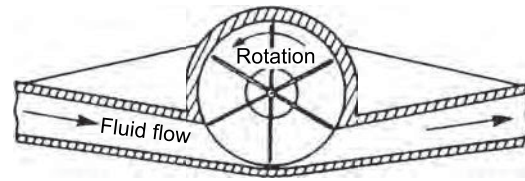

Figure 24.8
- (b) **Rotary vane positive displacement meters** measure the flow rate by indicating the quantity of liquid flowing through the meter in a given time. A typical such device is shown in section in Figure 24.8 and consists of a cylindrical chamber into which is placed a rotor containing a number of vanes (six in this case). Liquid entering the chamber turns the rotor and a known amount of liquid is trapped and carried round to the outlet. If x is the volume displaced by one blade then for each revolution of the rotor in Figure 24.8 the total volume displaced is $6x$. The rotor shaft may be coupled to a mechanical counter and electrical devices which may be calibrated to give flow volume. This type of meter in its various forms is used widely for the measurement of domestic and industrial water consumption, for the accurate measurement of petrol in petrol pumps and for the consumption and batch control measurements in the general process and food industries